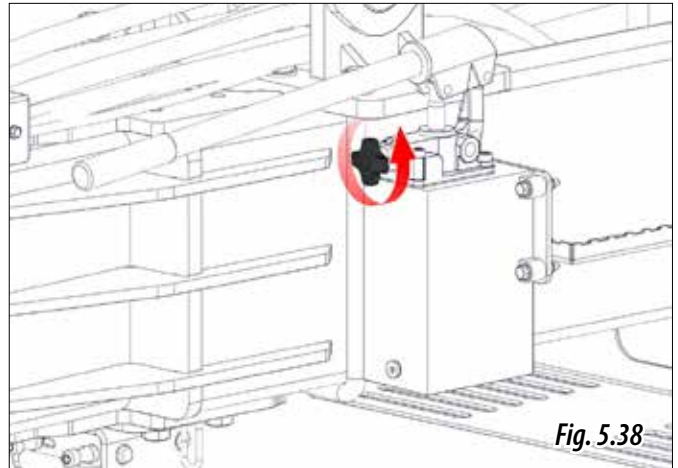

Fig. 5.38
- 1- Loosen the hand pump's knob (Fig. 5.38) to raise the telescopic foot. When the foot is raised, tighten the knob again.